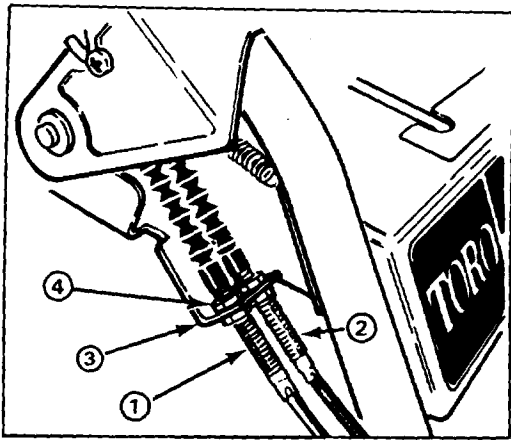

Figure 26
4. Loosen upper jam nut securing auger/impeller cable to mounting bracket (Fig. 26).
5. Rotate bottom jam nut upward to increase belt tension (Fig. 26).
ADJUSTING TRACTION DRIVE BELT (Fig. 26)
8. On control cable which corresponds to belt being replaced, loosen jam nuts securing cable to bracket (Fig. 26). Cable must be free to slide in bracket when changing belt(s).